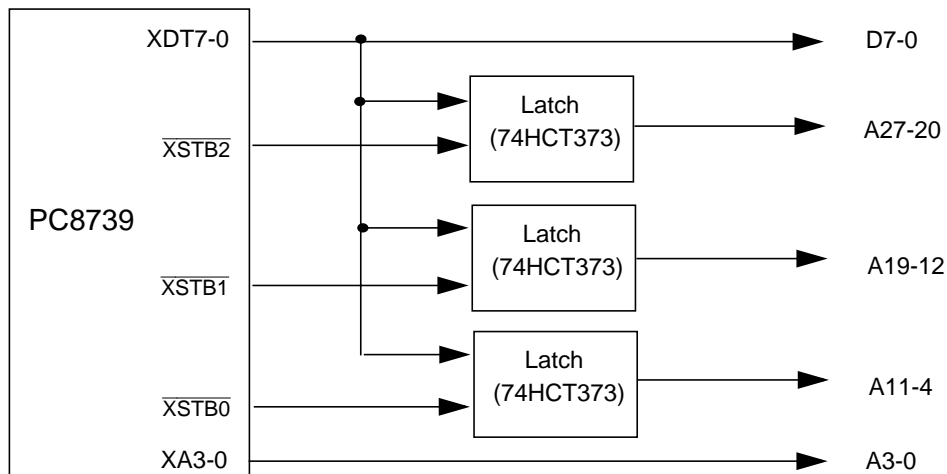

Figure 29. Latched Mode X-Bus Transactions External Logic
- Address multiplexing on XDT7-0 and the $\overline{\text{XSTB2-0}}$ is designed for glueless interface with off-chip latch components. See the example using 74HCT373 latches in Figure 29.